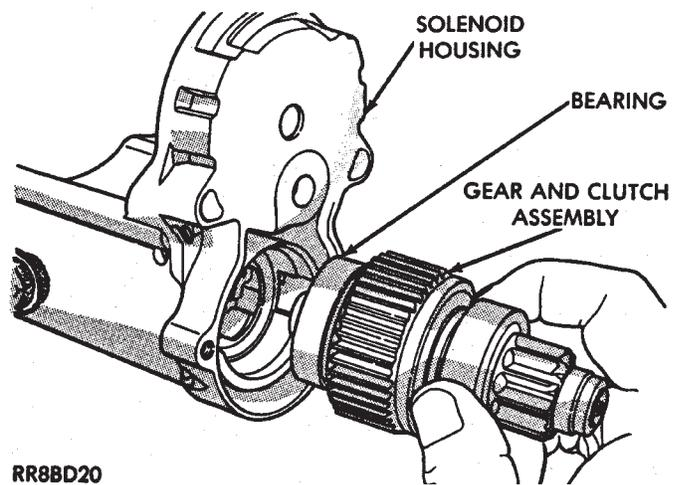

Fig. 13 Gear and Clutch Assembly
(2) Remove the starter gear and clutch assembly from the solenoid housing (Fig. 13).
(3) For assemble, reverse above procedures.